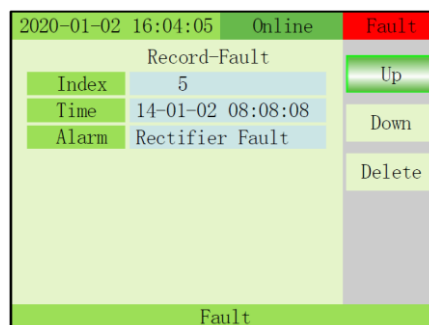

Fig. 3-23 **Record - Faults menu**
16) RECORD-FAULTS: Press ↻ to select Up or Down or Delete. Press OFF key to confirm (Fig. 3-23).